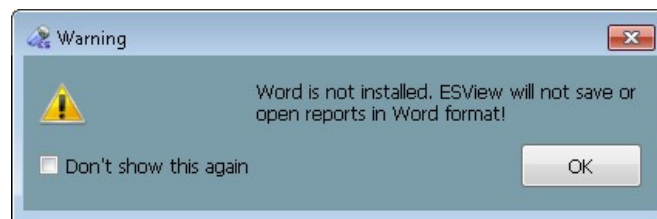

Figure 3-12: Dialog Box Alerting that Word Format Report Is Not Supported
2. If Microsoft Word 2003 or later version is not installed on the computer, ESView will display a dialog box to alert the user that report generation in Word format will not be supported (Figure 3-12).